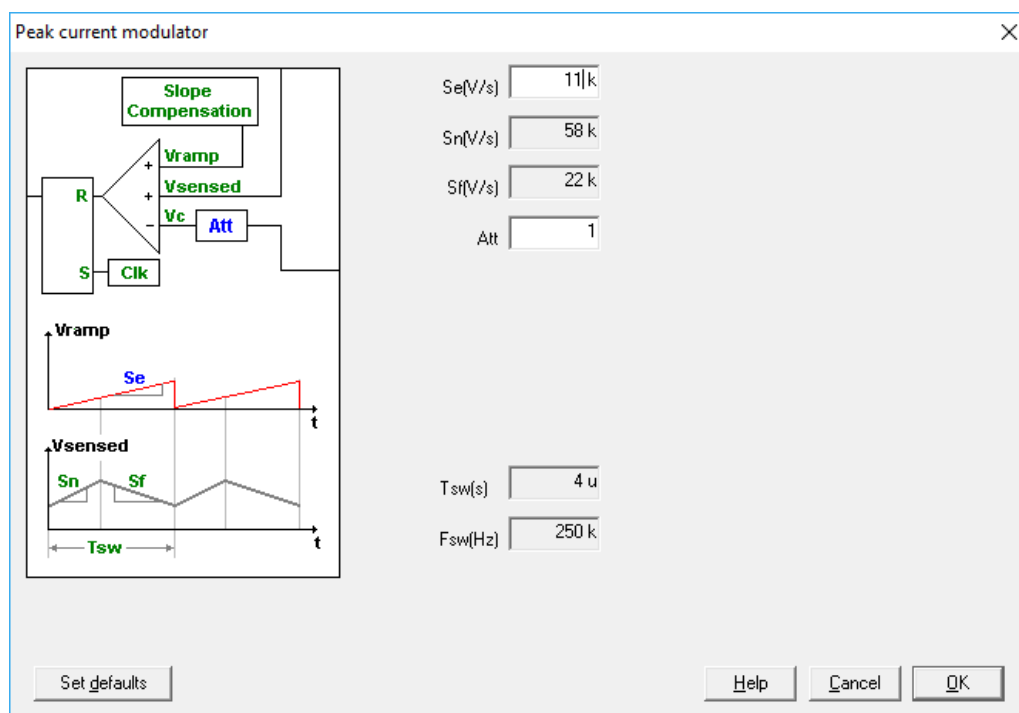

Figure 7: Modulator parameters
4. Define the modulator parameters as shown in Figure 7.